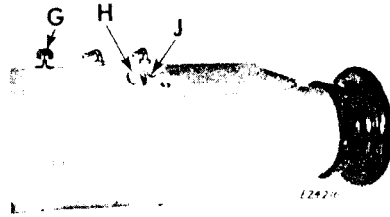

Fig. 3. Oil Reservoir
3. Fill oil reservoir at J, Fig 3 to high mark on the oil sight H, Fig. 3. Push down and turn oil plunger G, Fig. 3 until it locks in down position. Release plunger if machine is to be left idle for more than an hour.